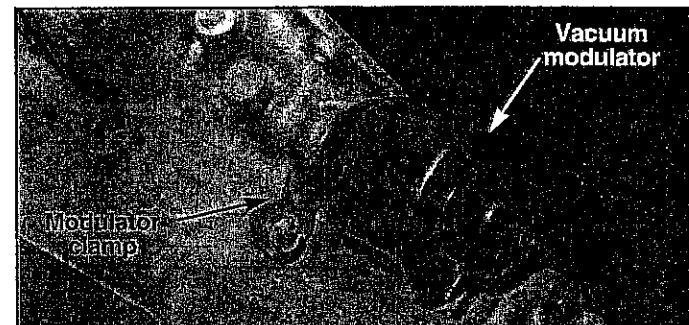

FIGURE 5
STEP 7. Remove the vacuum modulator retaining bolt and clamp. (See Fig. 5) Remove vacuum modulator and O-ring. Discard O-ring. Reach into modulator bore in case with a pair of needle nose pliers and carefully remove modulator valve. Set them in the oil pan.